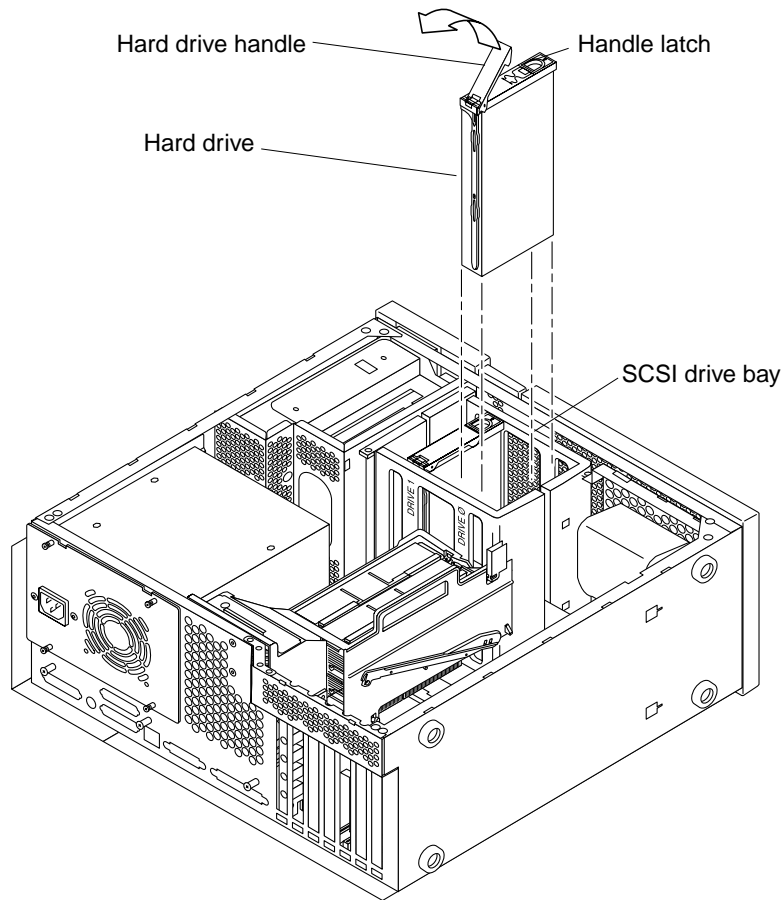

FIGURE 8-16 Removing and Replacing a Hard Drive
- 6. Replace the hard drive(s) (FIGURE 8-16):**